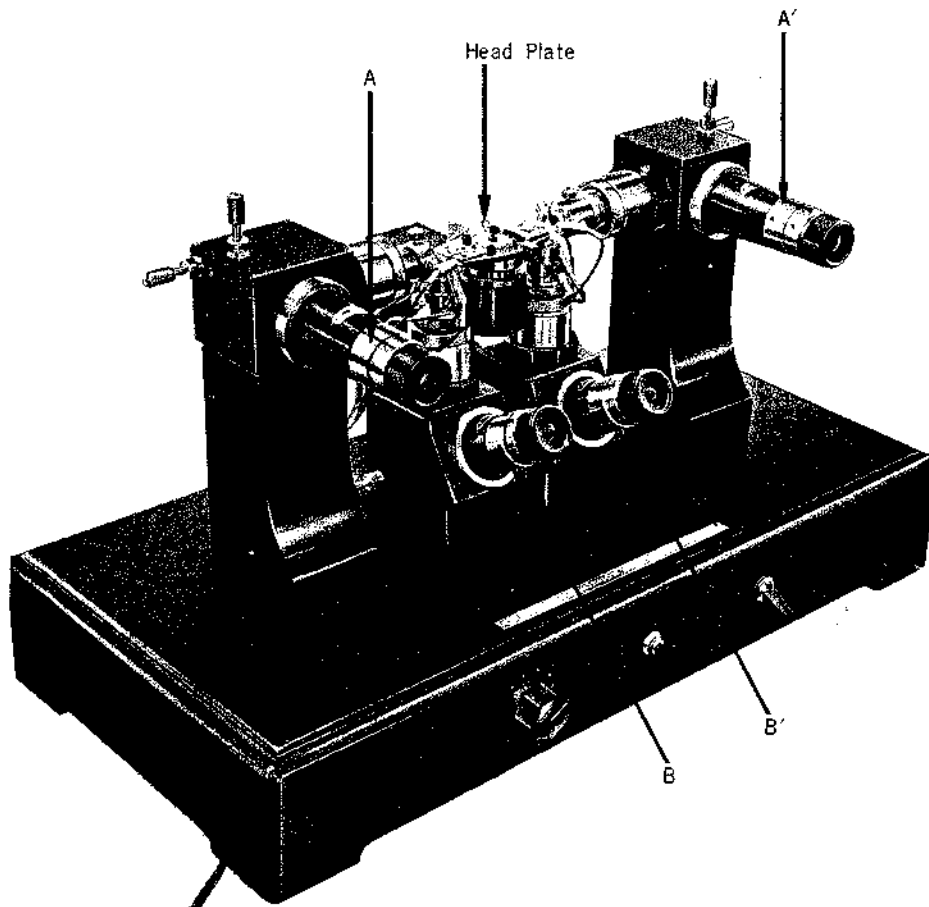

Fig. 1-12
(2) 180° Spacing and Protrusion of Video Head Tips
- a) Screw down the head plate at the center part of the microscope, positioning the brass plate so that it is located on the forward side of the head plate as shown in figs. 1-12 and 1-14.